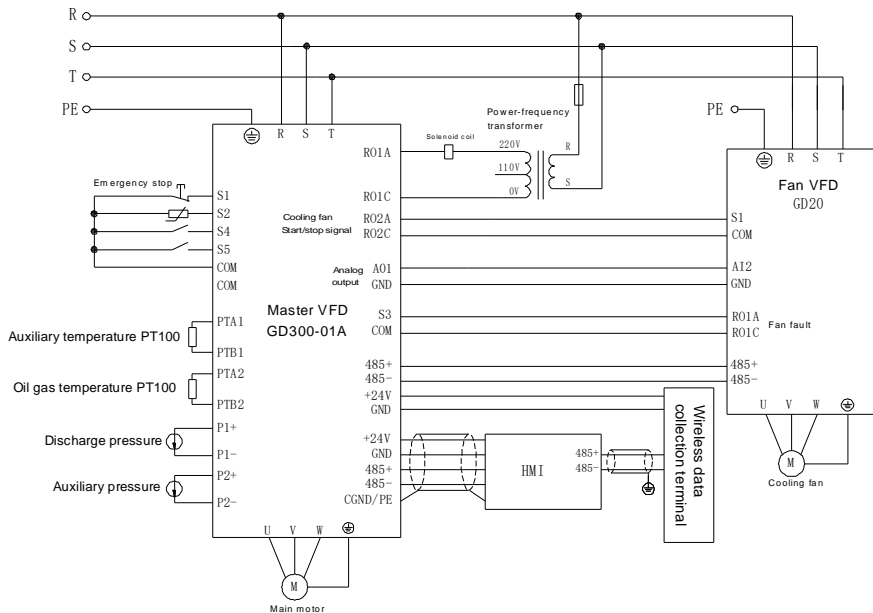

Figure 4-1 Wiring of dual-VFD air compressor system
Step 1 Perform wiring according to Figure 4-1 and ensure that the VFD for air compressor and the housing of the air compressor are grounded properly. After power up, the following interface is displayed.